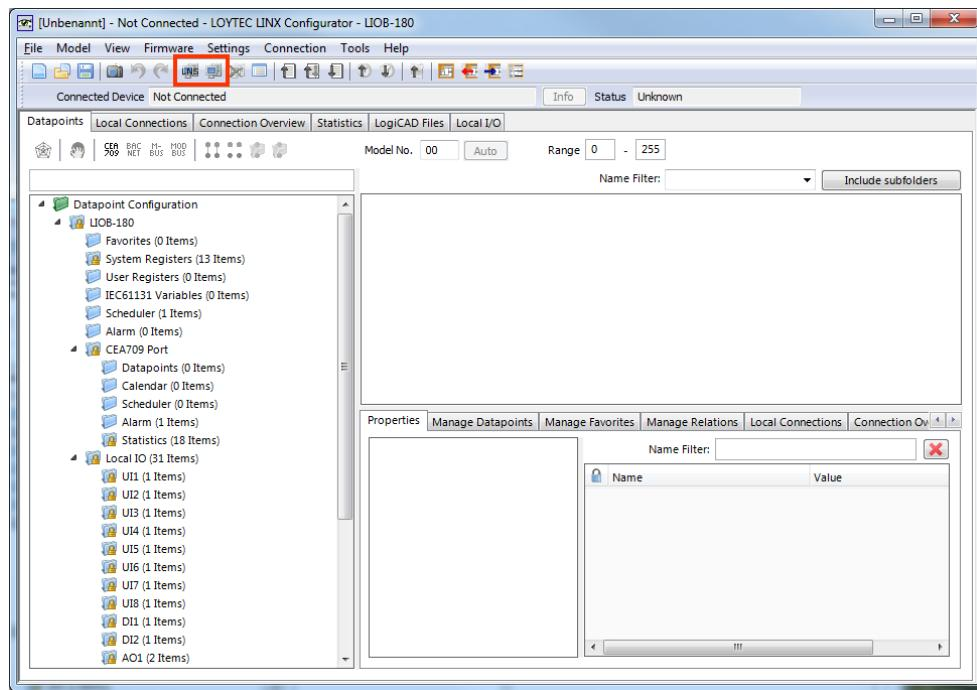

Figure 29: L-INX Configurator main screen
1. Start the L-INX Configurator software by selecting Windows **Start → Programs → LOYTEC LINX Configurator → LOYTEC LINX Configurator**. The application starts up and displays the data point manager screen as shown in Figure 29.
2. When the device is online, connect to the device by clicking on the LNS or device connect speed button as indicated by the red rectangle in Figure 29.